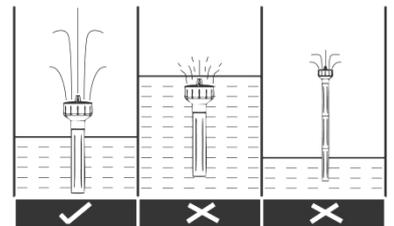

Fig 1
- d) To properly install the volcano fountain head, the extension tubes should be used to lift the fountain head above the water surface, but as low as possible so that the entire length of the water spray can be exposed to maximize the visual effect, as shown in Fig 1.